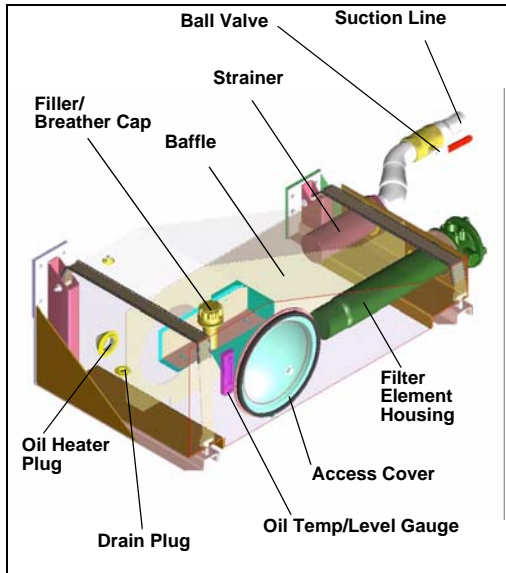

Figure 100. Hydraulic Tank (pressurized model)
4. Ensure the proper operation of the filler cap (Figure 100. “Hydraulic Tank (pressurized model)”). Make sure the filler cap has no obstruction.